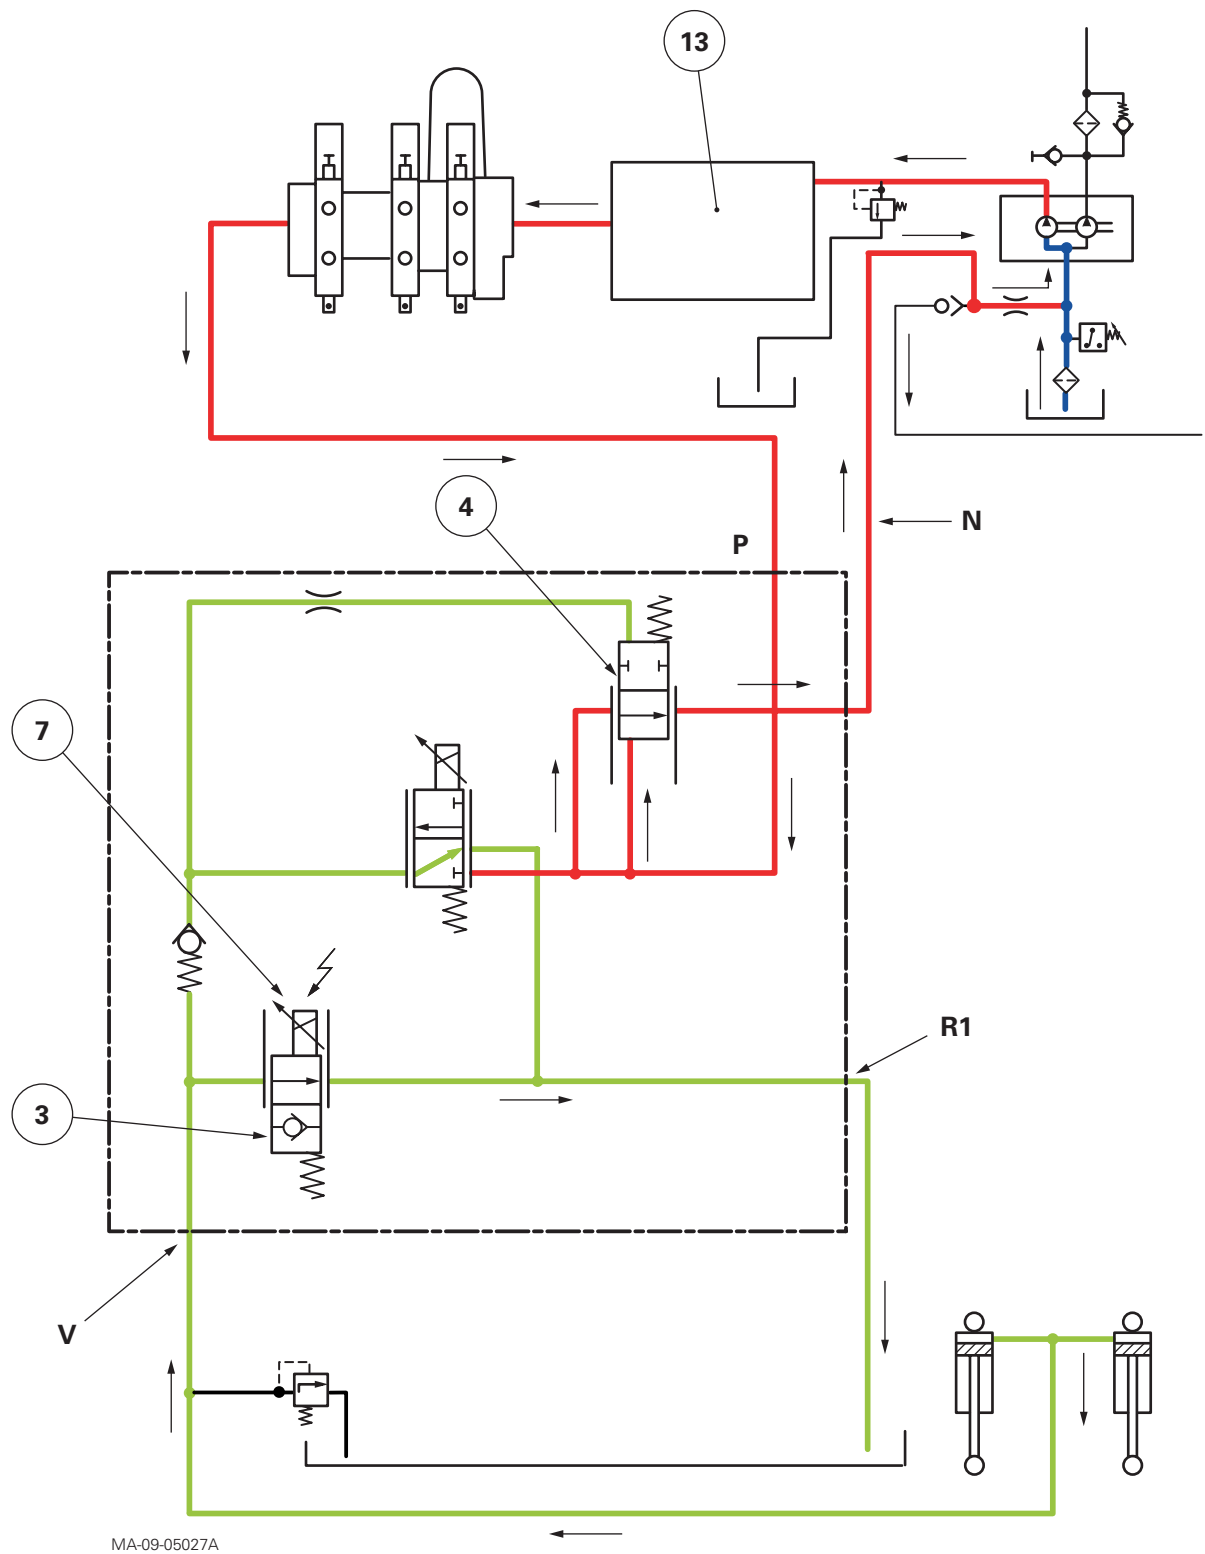

Fig. 7
Legend (Fig. 5, Fig. 6, Fig. 7, Fig. 9)
The solenoid valve (7) is activated to lower the draw-bars (Fig. 7).